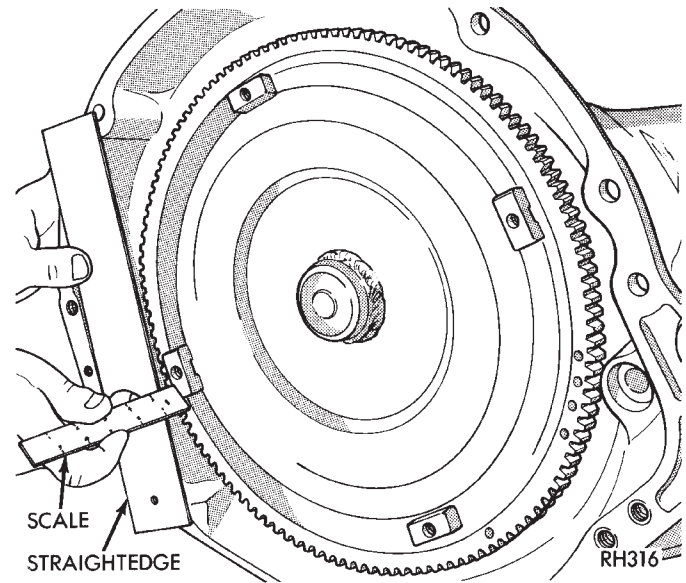

Fig. 4 Checking Torque Converter Seating
(1) Mount transmission on jack. Secure transmission to jack with safety chains.
(2) Check torque converter hub and hub drive notches for sharp edges, burrs, scratches, or nicks. Polish hub and notches with crocus cloth or 400 grit paper if necessary. Hub must be smooth to avoid damaging pump seal.
(3) Lubricate converter hub and pump seal lip with Mopar high temperature wheel bearing grease.
(4) Verify that converter is fully seated. Use straight edge and steel ruler to check seating (Fig. 4). Surface of
- (1) Mount transmission on jack. Secure transmission to jack with safety chains.
- (2) Check torque converter hub and hub drive notches for sharp edges burrs, scratches, or nicks. Polish hub and notches with crocus cloth or 400 grit paper if necessary. Hub must be smooth to avoid damaging pump seal.
- (3) Lubricate converter hub and pump seal lip with Mopar high temperature wheel bearing grease.
- (4) Verify that converter is fully seated. Use straight edge and steel ruler to check seating (Fig. 4). Surface of converter lugs should be 12.7 mm (1/2 in.) to rear of straight edge when converter is fully seated.
- (5) Temporarily secure converter with C-clamp attached to housing or with metal strap attached across converter housing.
- (6) Check condition of converter driveplate. Replace driveplate if cracked, distorted or damaged.
- (7) Verify that transmission dowel pins are seated in engine block and protrude far enough to held transmission in alignment.
- (8) Coat torque converter pilot hub of crankshaft with light coat of Mopar high temperature wheel bearing grease.
- (9) Move transmission under vehicle and position it at rear of engine. Remove C-clamp or strap used to secure converter in housing.
- (10) Align transmission with engine dowels and align converter with driveplate. Offset holes in driveplate are next to 1/8 inch hole in inner circle of plate (Fig. 4).